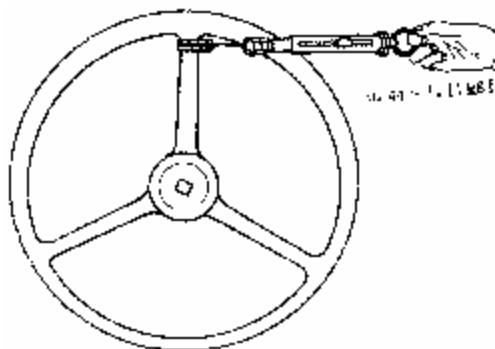

Figure 7-6-2 Measure the force needed to turn steering wheel
(1) Mount steering gear with UJ assembly onto vehicle frame and outer side of longitudinal beam. Mount hex bolt, washer, spring washer and hex nut. Tightening torque for nut is 75-113N.m.
(2) Mount steering shaft with spline shaft/bush assembly into column bracket; set UJ under spline bush onto spline shaft journal (steering worm end). Mount and tighten locking bolts with torque of 23-26N.m. Mount ignition switch assembly into steering column bracket and switch bearing into concerning steering shaft journal. Mount a shaft spring retaining ring into journal groove of steering bearing to locate axially steering shaft. Mount combined switch on ignition switch. Add washer (according to required number) onto shaft spring retaining ring to locate steering wheel.
(3) Mount steering wheel assembly. Tighten nuts used to fix steering wheel with torque of 40-50N.m. Measure steering wheel tension with a dynamometer (spring weigh) pulling from outer edge of steering wheel (figure 7.6.2). The tangential pulling force range should be 0.44-1.11kgf (the value is measured when steering wheel is turned 80° to left and right from center position under the condition that steering screw bearing has been adjusted correctly). Proceed to next mounting in the event the force needed to turn steering wheel is within this range. Or readjust steering gear if a larger force is needed.